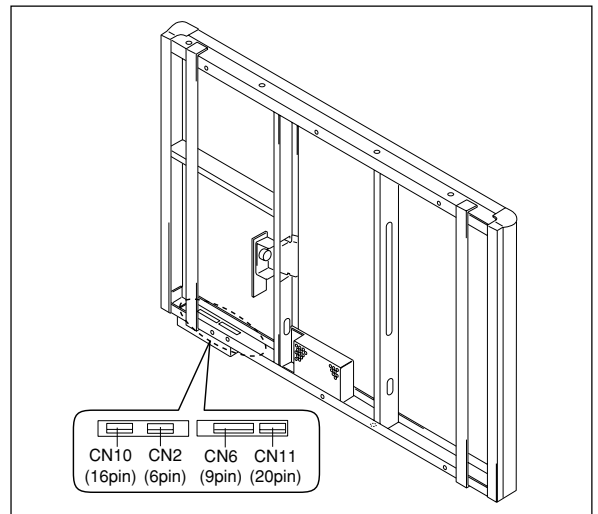

Fig. 3
2) Remove the Main Board Assy. (See Figs. 3, 4, and 5.)
1. Disconnect the connectors (CN2, CN6, CN10, and CN11) connected to the Main Board Assy shown in Fig. 3.